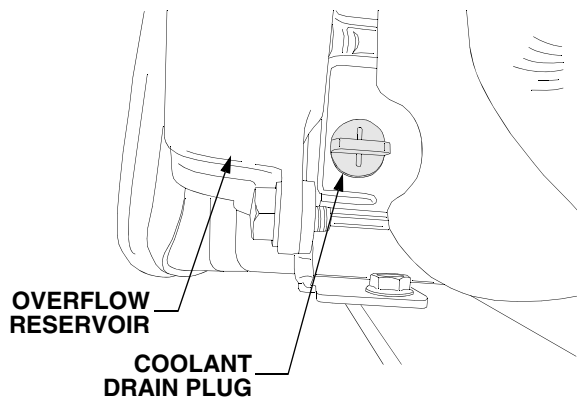

Figure 58
- Locate the radiator drain plug in the lower left rear corner of the radiator. See Figure 58.